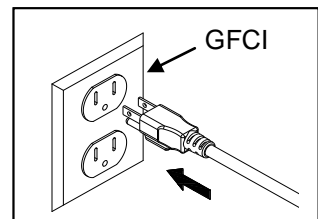

Fig. 3
3. Place the unit into the water and connect to a proper power source. Fig. 3